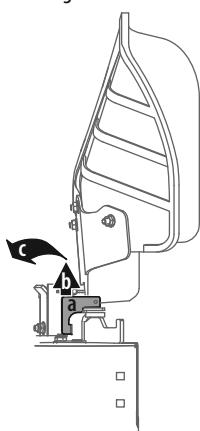

Figure 11
- The chute is shipped attached and with a stop bracket holding the chute upright. The stop bracket must be removed prior to operating the tractor. See Figure 11.